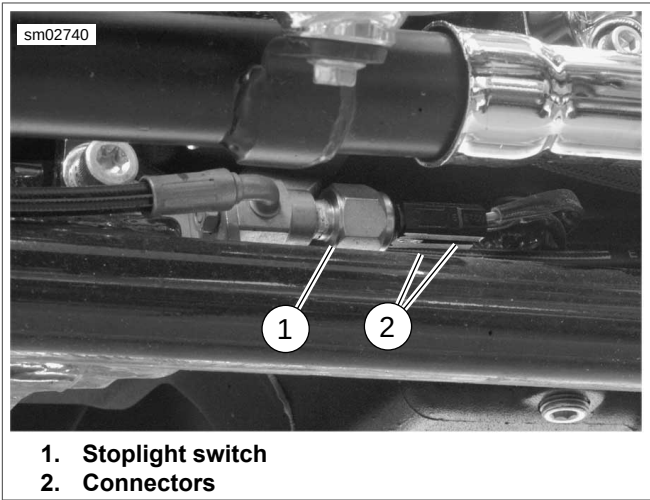

Figure 7-99. Rear Stoplight Switch
See Figure 7-99. The rear stop lamp switch monitors brake fluid pressure in the rear brake line. When pressure in the line reaches a preset level, the rear stop lamp switch is tripped and illuminates the tail light/stop lamp.
1. See Figure 7-99. Remove both connectors (2) from rear stop lamp switch (1).
2. See Figure 7-99. Install rear stop lamp switch (1). Tighten to 12-15 ft-lbs (16.3-20.3 Nm).
3. Install both switch connectors (2).